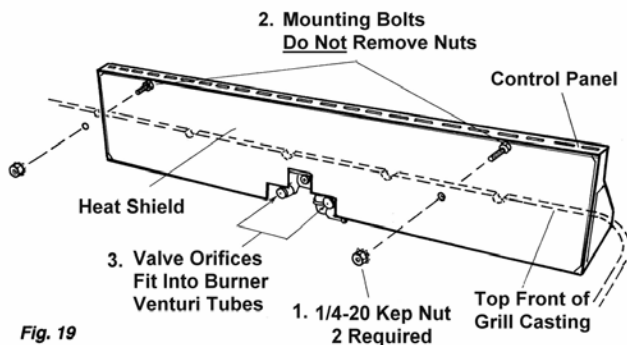

Fig. 19
A. Attaching the Heat Shield and Control Panel Assembly (Fig. 19)
2. Leave the (2) nuts holding the heat shield on, to serve as spacer nuts.